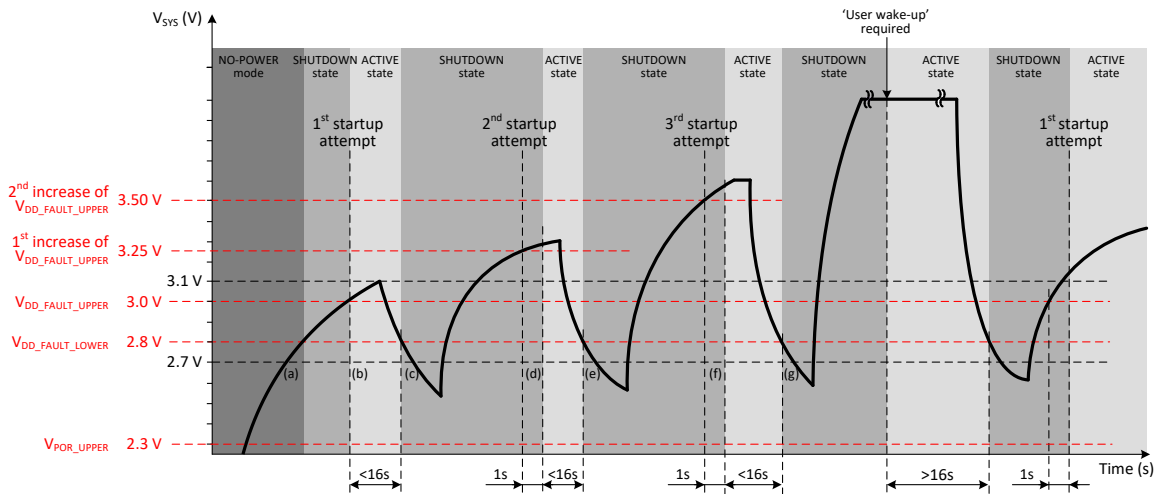

Figure 14: VDD_START Faults
The DA9063 `VDD_START` feature prevents endless looping of false starts in a weakly-powered system. `VDD_START` limits the number of automatic restart attempts to three. With reference to Figure 14:
- Figure 14\(a\): The PMIC starts from NO-POWER mode.
- Figure 14\(b\): First startup attempt. The PMIC transitions to the ACTIVE state when V_{SYS} rises above $V_{DD_FAULT_UPPER}$.
- Figure 14\(c\): If, during the first startup attempt, the V_{SYS} supply drops below $V_{DD_FAULT_LOWER}$ for more than 100 ms, the PMIC shuts down to the SHUTDOWN state. $V_{DD_FAULT_UPPER}$ is increased automatically by 250 mV. However, the increased $V_{DD_FAULT_UPPER}$ is limited to a maximum of 3.70 V.
- Figure 14\(d\): Second startup attempt. If V_{SYS} rises above the new $V_{DD_FAULT_UPPER}$ threshold, then the PMIC will power-up to the ACTIVE state.
- Figure 14\(e\): If, during the second startup attempt, the V_{SYS} supply drops below $V_{DD_FAULT_LOWER}$ for more than 100 ms, the PMIC shuts down to the SHUTDOWN state. $V_{DD_FAULT_UPPER}$ is increased automatically by a further 250 mV (500 mV above its original setting). However, the increased $V_{DD_FAULT_UPPER}$ is limited to a maximum of 3.70 V.
- Figure 14\(f\): Third startup attempt. If V_{SYS} rises above the new $V_{DD_FAULT_UPPER}$ threshold, then the PMIC will power-up to the ACTIVE state.
- Figure 14\(g\): If, during the third startup attempt, the V_{SYS} supply drops below $V_{DD_FAULT_LOWER}$ for more than 100 ms, the PMIC shuts down. From then on, `AUTO_BOOT` and wake-up from non-user events are temporarily disabled. 'User events' are defined in Table 40.